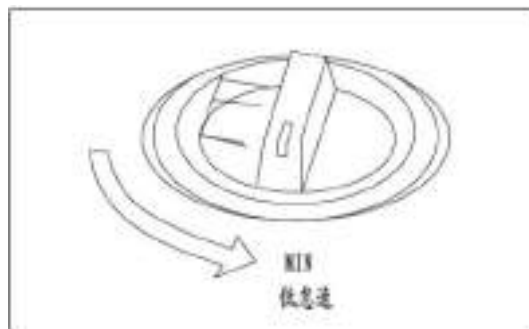

Figure 4-18 Fuel control knob at idle speed
b) Turn the fuel control knob to the low idle speed (MIN) position shown in Figure 4-18. Turn the starter switch key to the START position shown in Figure 4-19 and the engine will start.